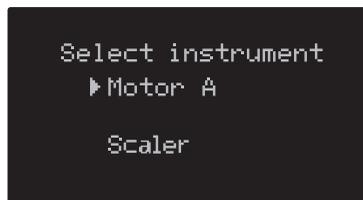

Fig. 3 Display when selecting the instrument
- 2) Press **[ESC]** key at the normal display. The display will go to instrument selection mode when using Motor A or Scaler. The screen shown in Fig.3 is displayed.